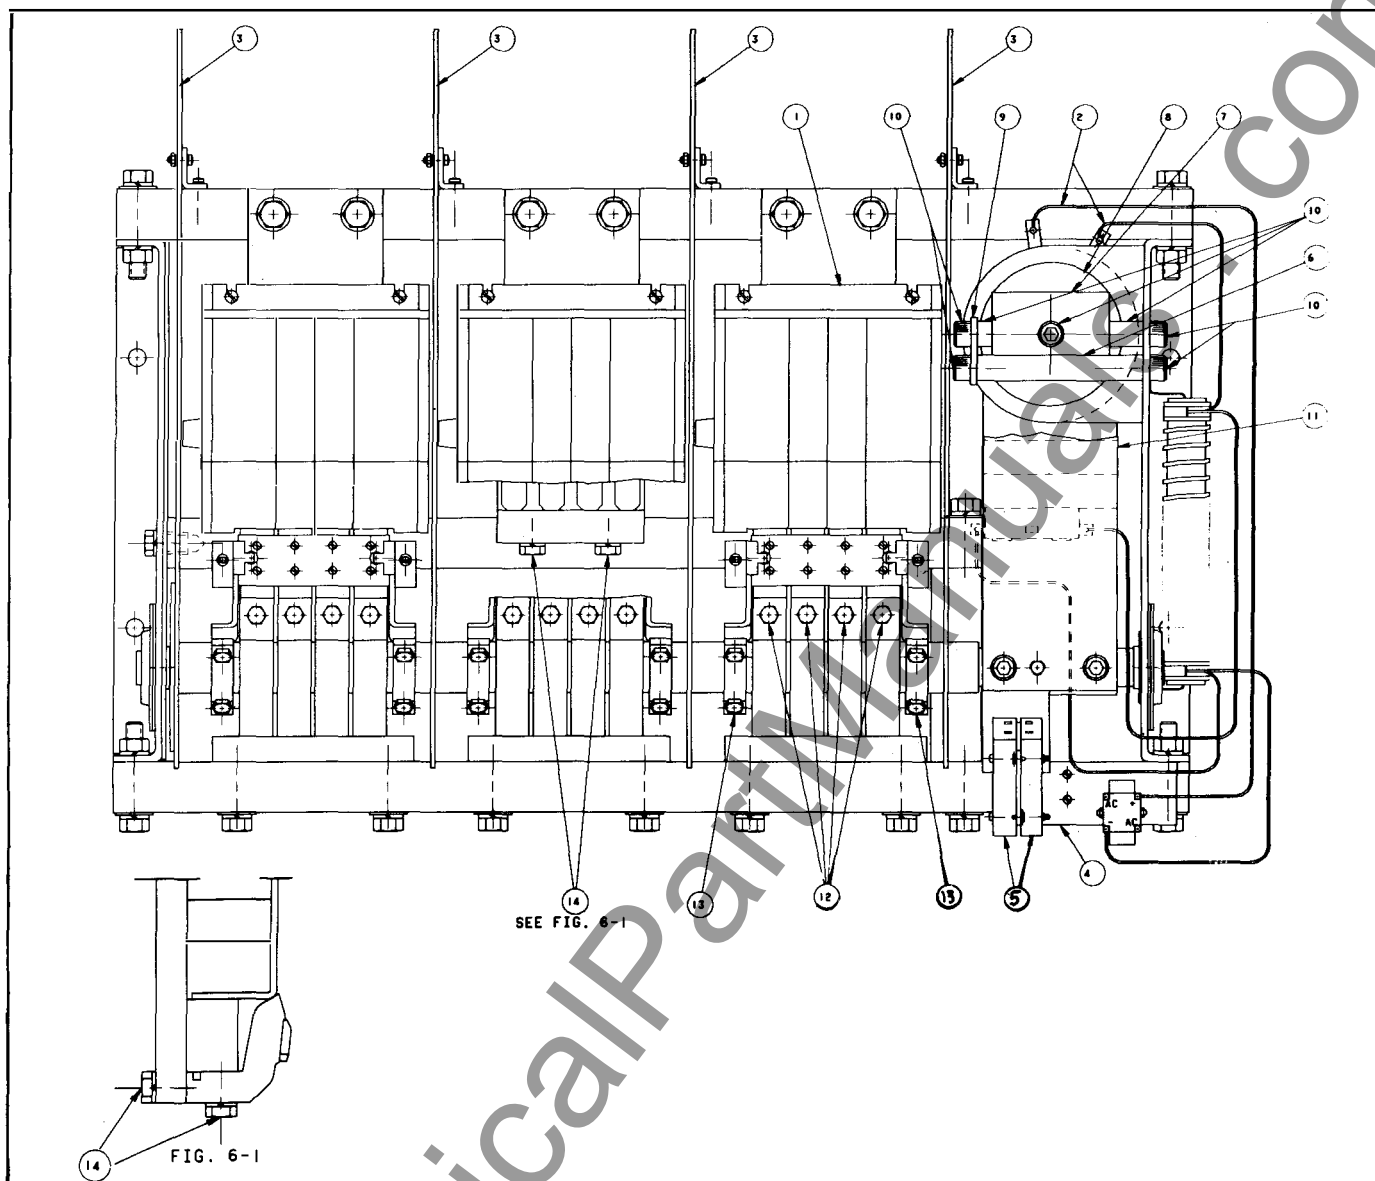
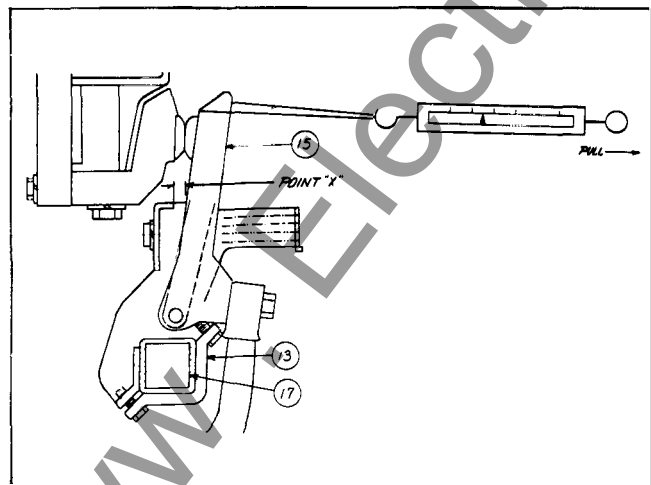

Fig. 6 Cutaway View
Fig. 7 Contact Overtravel and Force Measurement
To remove and replace the operating coil, proceed as shown below. Item () references are to Fig. 6. Tightening torque values are shown in Table I.
To inspect contacts and replace them proceed as shown below. Item references are to Figure 6. Contact replacement is necessary when the contact overtravel, measured at point X, Figure 7, has been reduced to $3/32$ inch.
Make sure that all contact pairs touch simultaneously within $\frac{1}{32}$ inch. Sufficient adjustment can generally be obtained by a selective tightening of the two bolts securing the shaft clamp (13) to the moving contact bracket (Figure 7), tightening one more than the other to produce a slight rotation of the assembly on the shaft (17). When adjusted, the contact air gap should be $\frac{3}{4}$ inch with the armature in the fully open position. A gap of $\frac{3}{16}$ to $\frac{7}{32}$ inch, measured at Point X, Figure 7, is typical with newly installed contacts when the armature is in the fully closed position.
Measure the contact force at the top of the moving contact inlay and in line perpendicular to the moving contact (15). The contactor employs multiple contacts in parallel for each pole. The forces given below are for each contact. See Figures 6 and 7.